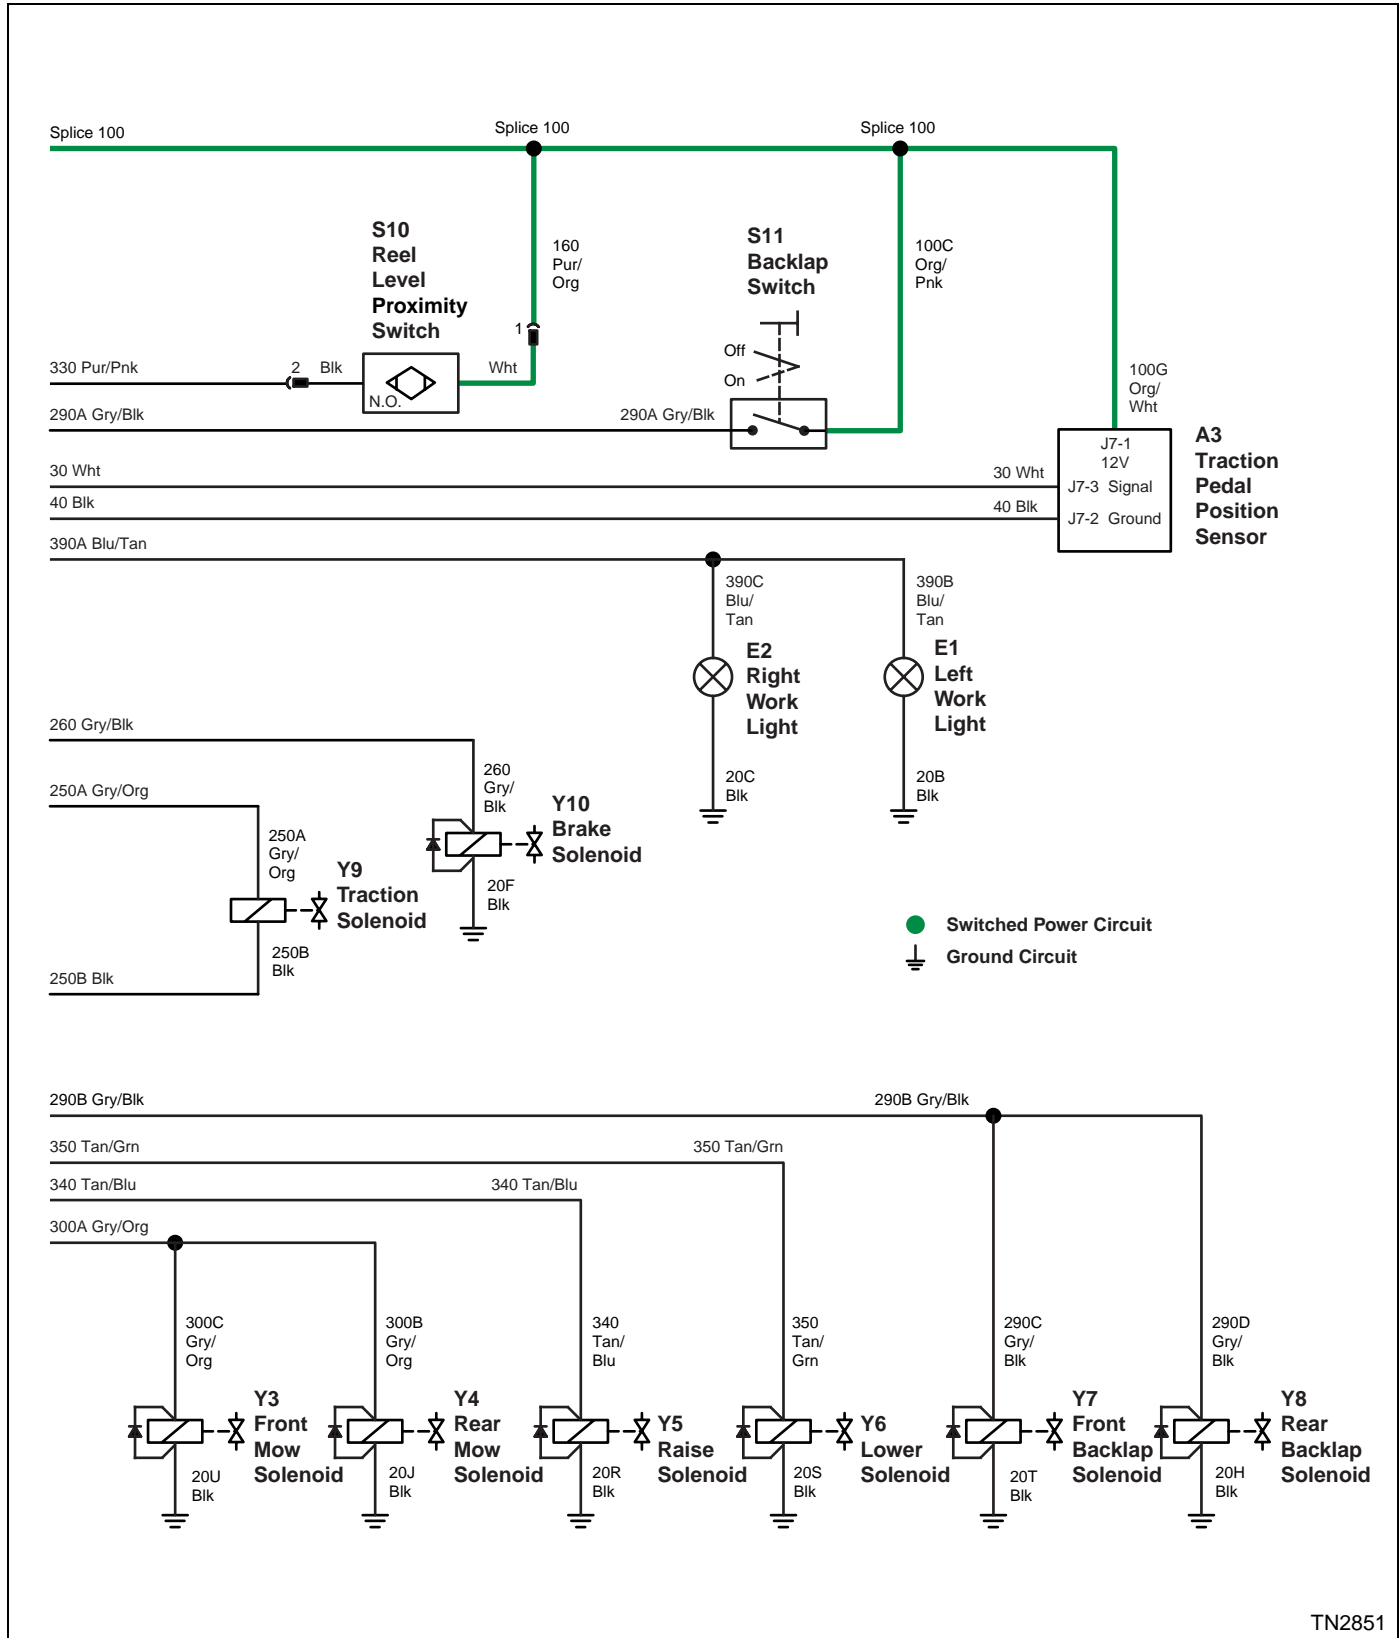

Figure 4-5
- A3—Traction Pedal Position Sensor (See Figure 4-5.)
- E1—Left Work Light (See Figure 4-5.)
- E2—Right Work Light (See Figure 4-5.)
- S10—Reel Level Proximity Switch (See Figure 4-5.)
- S11—Backlap Switch (See Figure 4-5.)
- Y3—Front Mow Solenoid (See Figure 4-5.)
- Y4—Rear Mow Solenoid (See Figure 4-5.)
- Y5—Raise Solenoid (See Figure 4-5.)
- Y6—Lower Solenoid (See Figure 4-5.)
- Y7—Front Backlap Solenoid (See Figure 4-5.)
- Y8—Rear Backlap Solenoid (See Figure 4-5.)
- Y9—Traction Solenoid (See Figure 4-5.)
- Y10—Brake Solenoid (See Figure 4-5.)